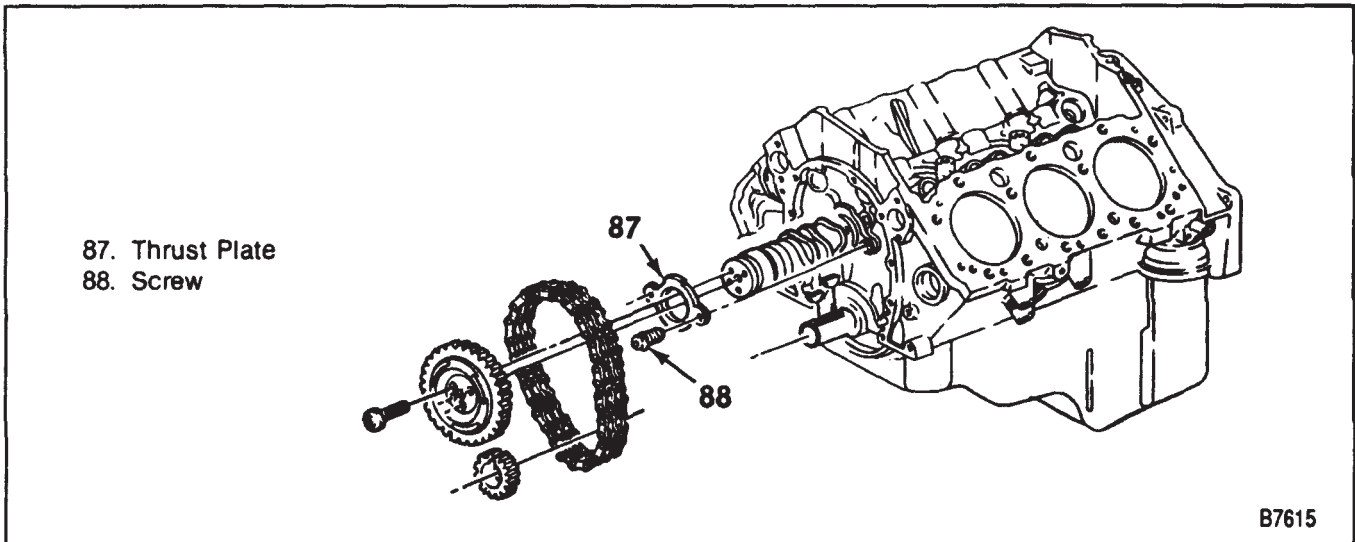

Figure 40—Camshaft and Components (VIN Z Engine)
### ↔ Remove or Disconnect (Figures 40 through 44)
**Install or Connect (Figures 40 through 44)**